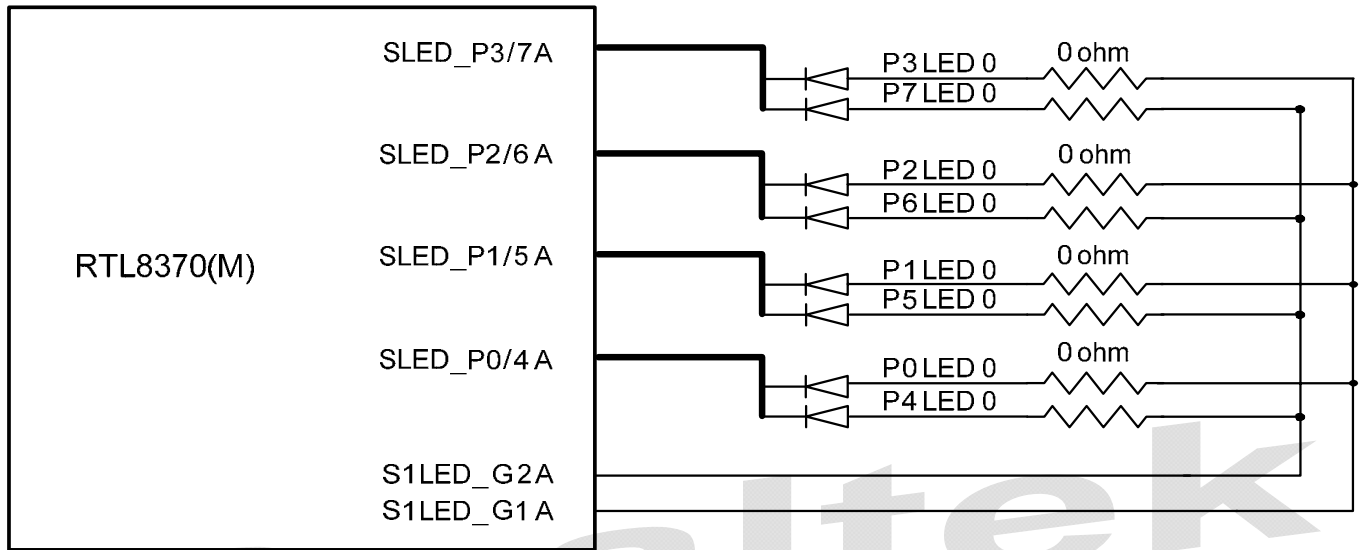
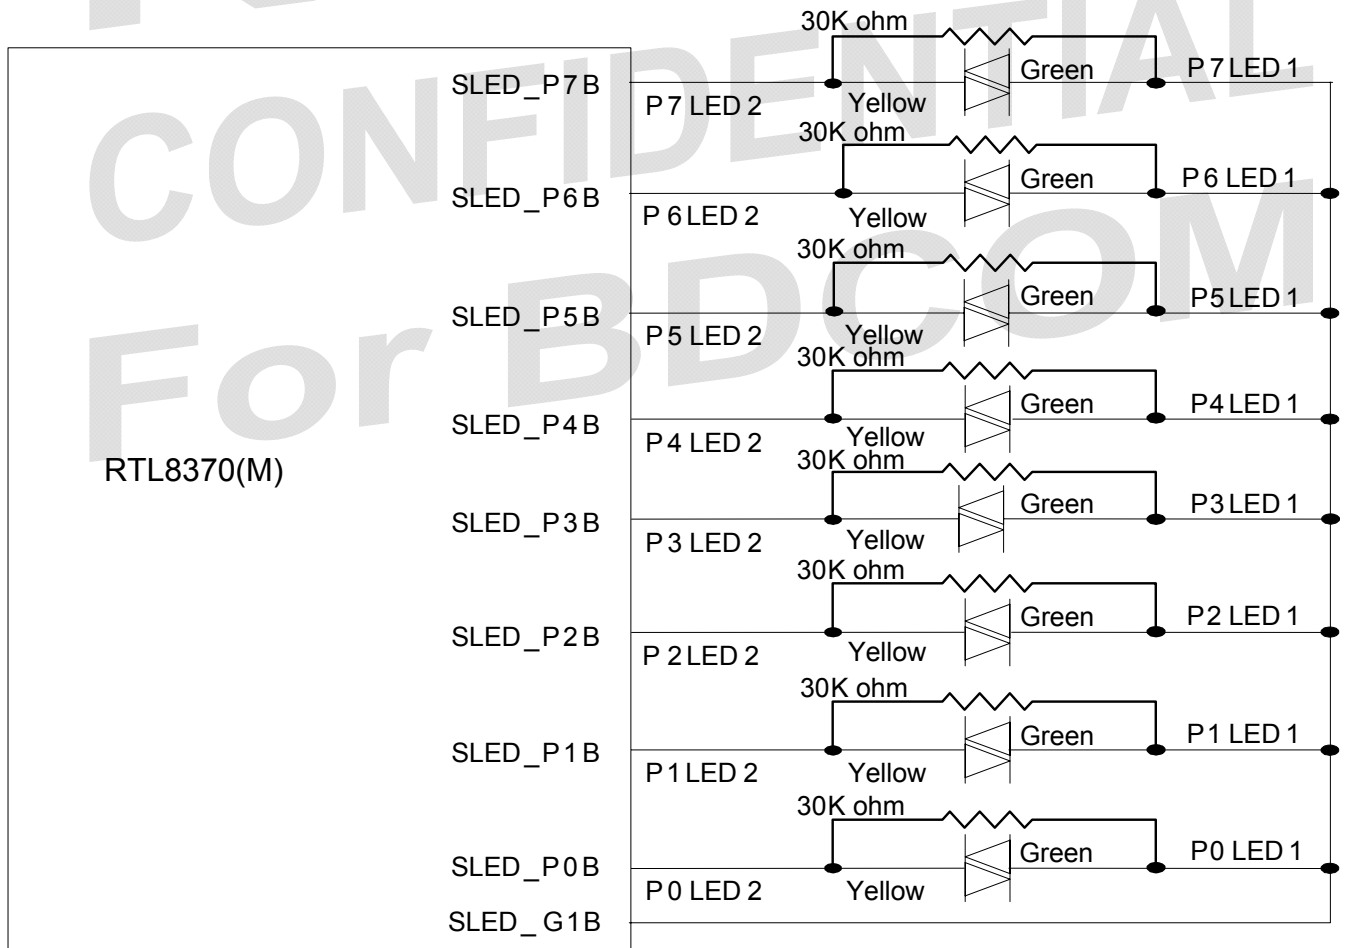

Figure 11. Scan Mode LED Connection Diagram (Group A: Single-Color LED (LED0))
Figure 12. Scan Mode LED Connection Diagram (Group B: Bi-Color LED (LED1 & LED2))
The RTL8370(M) provides scan LED mode to reduce LED pins but keep the same number of LED indicators as parallel LED mode. Each port includes one bi-color and one single-color LED. The bi-color LED consists of LED1 & LED 2 (Figure 12) and the single-color LED is driven by LED0 (Figure 11).